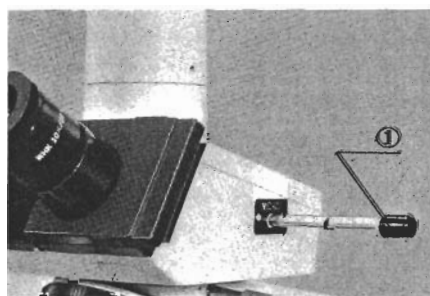

Fig. 13
- 1) The trinocular tube is provided with a light path selector knob ① to direct the light to the observation tube and/or to the photo tube in 3 positions (Fig. 13)